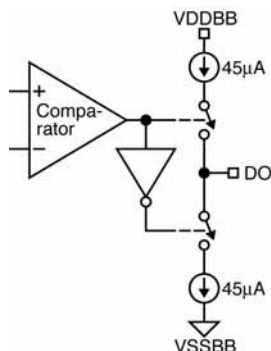

Figure 4. DO Pin
The output stage for the digital output (DO) is shown in Figure 4. The output is a  $45\mu\text{A}$  push and  $45\mu\text{A}$  pull switched-current stage. This output stage is capable of driving CMOS loads. An external buffer-driver is recommended for driving high capacitance loads.